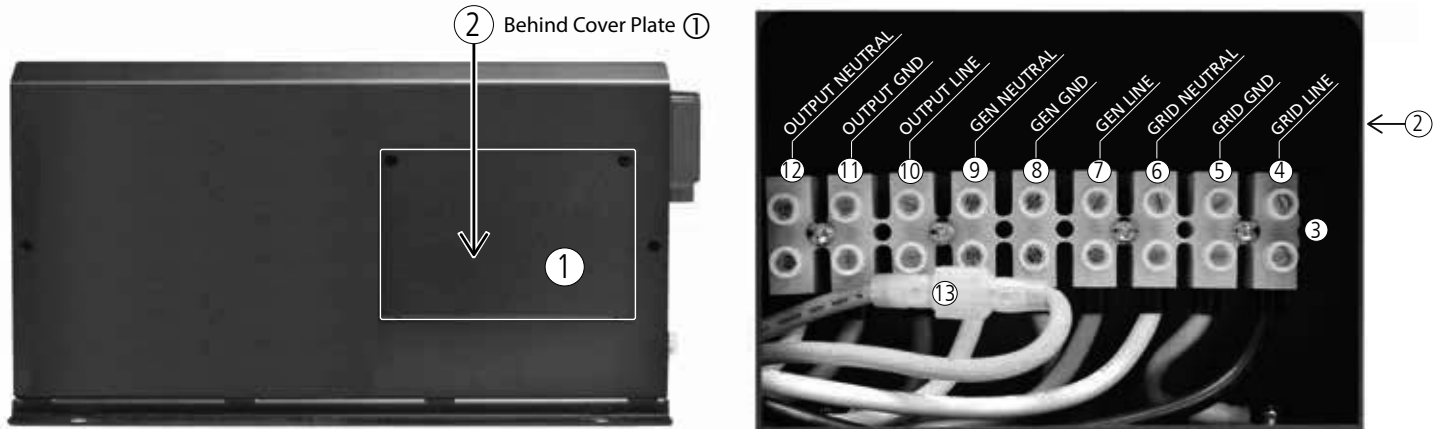

Fig 3.9 AC Input and Output
AC side layout and connection arrangement are shown in Fig 3.9.
LEGEND for Fig 3.9
- **Disabling Neutral to Ground Bond:** In some applications, the Output Neutral may be required to remain isolated from chassis/ground at all times. For this, automatic Output Neutral to chassis Ground bond can be disabled by disconnecting the Male/Female Disconnect (*13, Fig 3.9*) located in the AC Wiring Compartment.
The AC input and output supply connections are located in a pocket protected by a cover with a removable front plate (1,2 Fig 3.9). Three 27.8mm / 1^{3/32}" diameter holes (10A to 10C, Fig 2.1) have been provided for cable / conduit entry. Remove the caps covering the holes and install appropriate 3/4" Trade Size Fitting for routing the AC input and output wires/conduits.
Screw down type of terminal block (3, Fig 3.9) is used for connecting the wires. The hole size for wire entry is 6 mm and set screw size is M4. It can accommodate conductors with solid or multi-stranded wire size range of AWG #6 to AWG #20 (13.3 mm² to 0.5mm²).